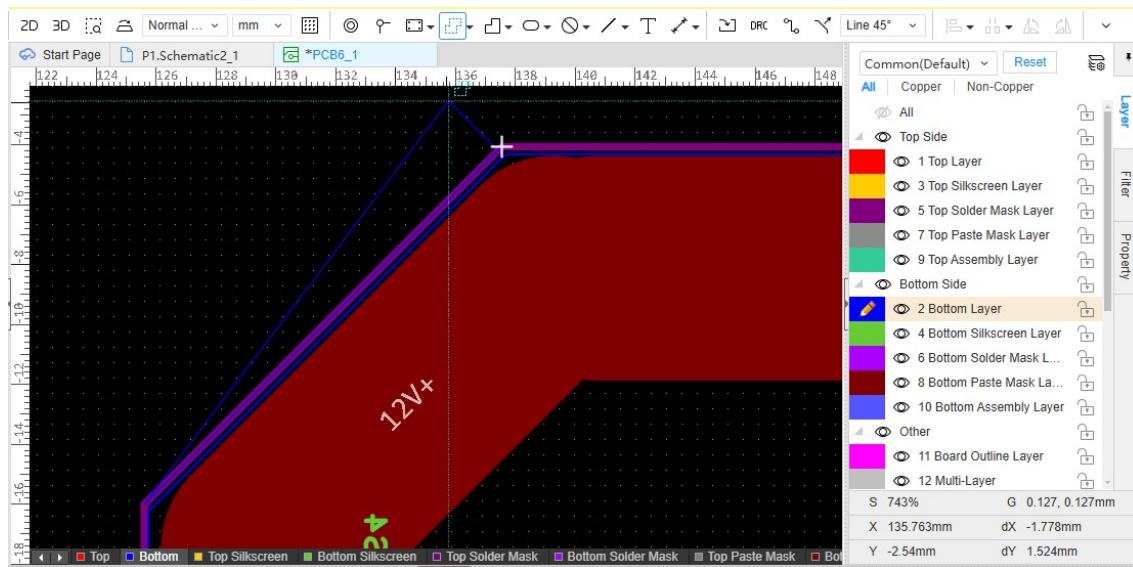

Fig.19. Copper area selection.
- Go to the **copper area** and select the area as per your requirements “**Type = Copper Region**” and “**Net = GND**”(Refer to Fig. 19 & 20 for details.)